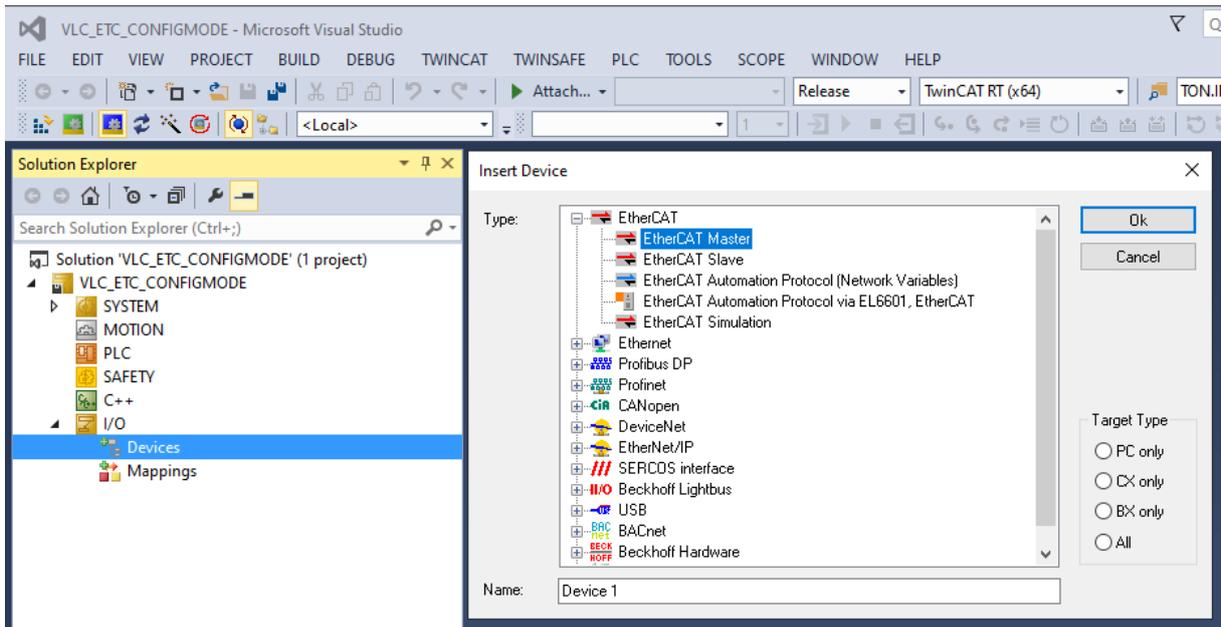

Figure 2.5. Adding an EtherCAT master.
- On the left pane of the TwinCAT development environment, right-click on I/O>Devices, select “Add new item”. A window “Insert Device” appears as shown in Figure 2.5. Select EtherCAT Master and click OK.